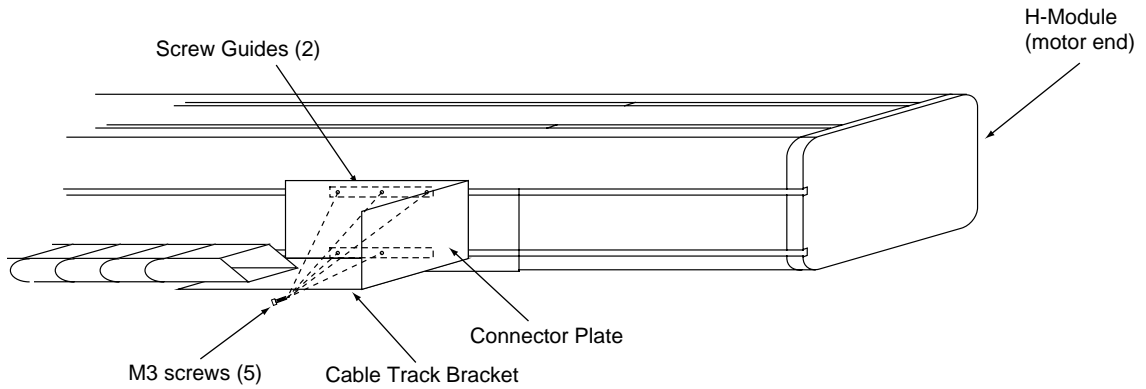

Figure 6-4. Cable Track Bracket Mounting
3. Align the Cable Track bracket with screw guides. Align the cable track supports and the Cable Track Bracket and secure with four M3 screws (see Figure 6-4).